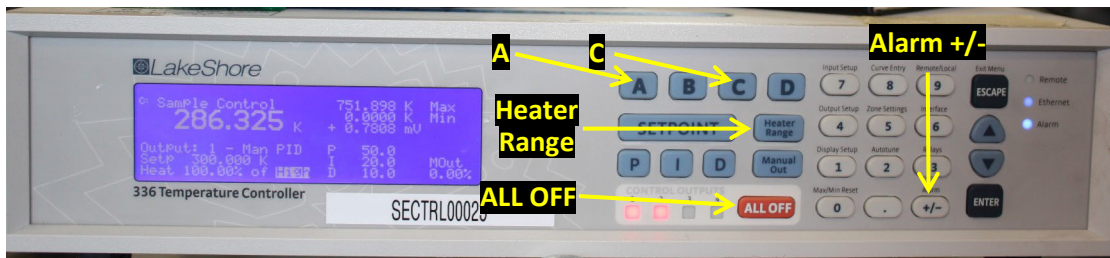

Figure 2. LakeShore336 controller
- d. Turn off all heaters by hitting the red “ALL OFF” button on the front of the LakeShore 336 controller, (Figure 2). The adjacent red lights for Control Outputs 1 & 2 should turn off.